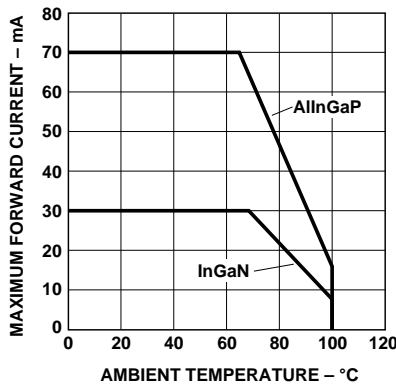

Figure 5. Maximum forward current vs. ambient temperature, derated based on $T_{jmax} = 110^{\circ}C$, $R_{\theta JA} = 300^{\circ}C/W$.
1. Derate linearly as shown in figure 5.